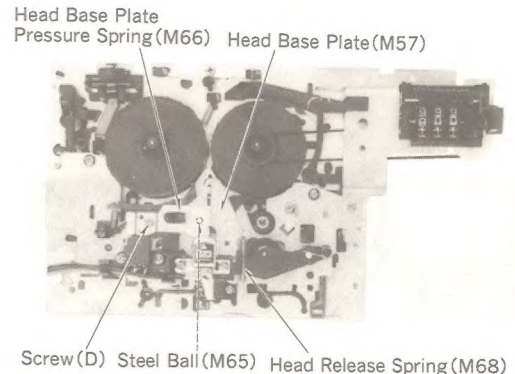

Fig. 11
In this case, take care not to lose steel ball (M65). (fig. 11)
2. With head release spring (M68) removed, head base plate (M57) can be detached. (fig. 11, 12)